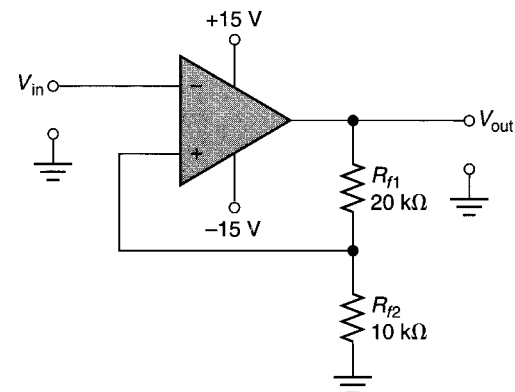

FIGURE 19.59
25. Determine the UTP and LTP values for the Schmitt trigger in Figure 19.59.